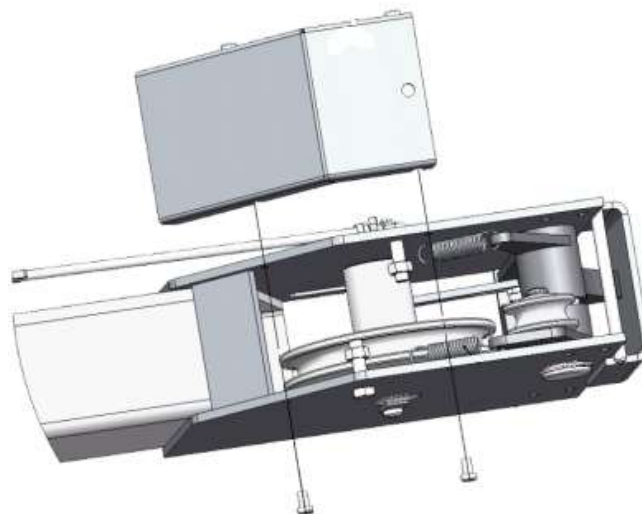

Figure 28
**Step 12** - Install spring and beam safety cover of cross beam (See Fig.28).